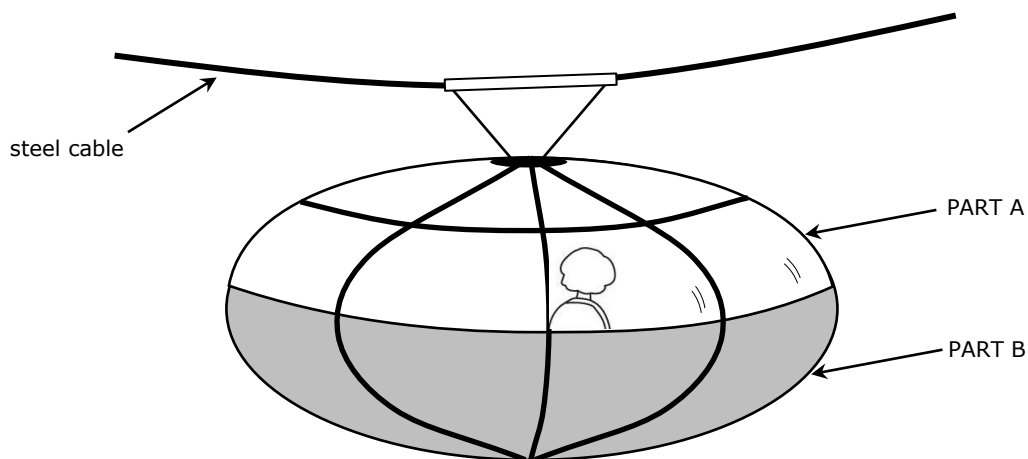

Figure 1: Cable car
Figure 1 shows a cable car which is used to transport passengers between two hills. Part A is the upper part and Part B is the lower part of the cable car.
c. The steel cable used to carry the cable car shown in Figure 1 is made up of several steel wires spun together.